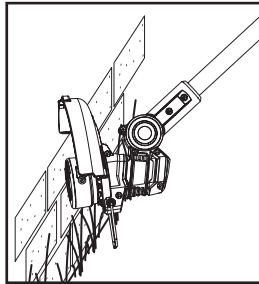

Fig. 19
1. Make sure that the knife protector (11d) is removed, the plant protector (13) is ready for use and the battery pack (16) is assembled before operation.
2. Adjust the main handle (1) angle to 180° for edging (Fig. 19).